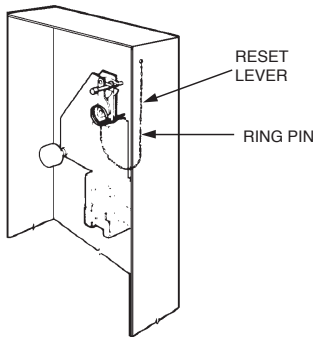

FIGURE 10-2
1. Make certain ring pin is in place in AUTOMAN II-C release mechanism. See Figure 10-2.
12. With release mechanism cocked, install ring pin. See Figure 10-2.